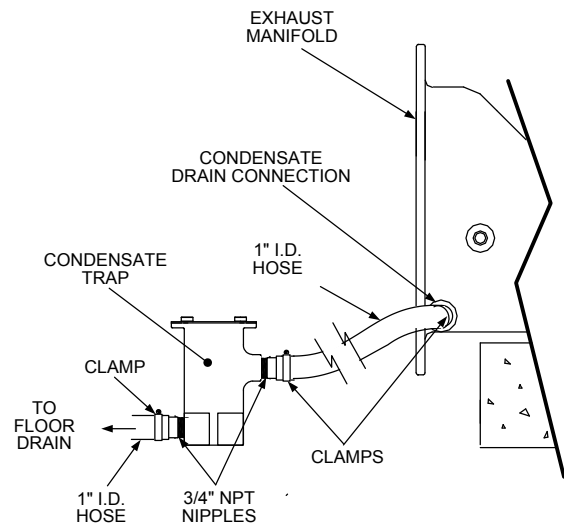

Figure 2.5
3. Attach a length of 1" I.D. polypropylene hose between the exhaust manifold drain and the inlet side of the condensate trap (Fig 2.5). Secure both ends of the hose with clamps. Drainage from the condensate drain trap outlet must be by gravity to a nearby floor drain via a polypropylene hose or suitable piping.